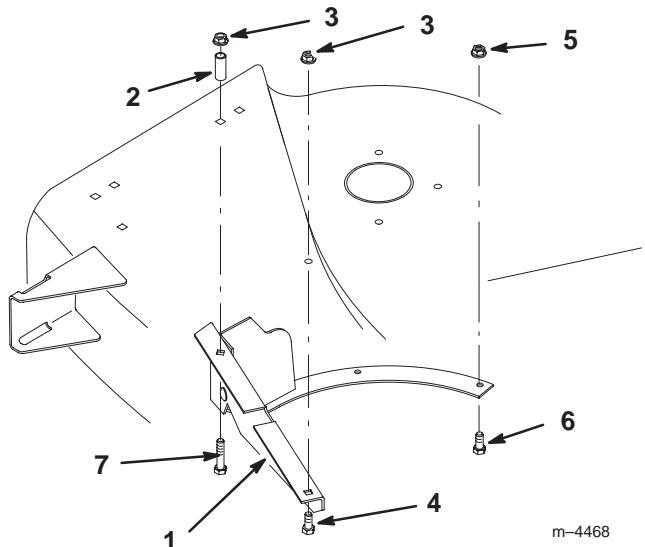

Figure 33
2. Remove the rear grass baffle and grass ring from the inside of the discharge chute area (Fig. 33). Retain all parts for future installation.